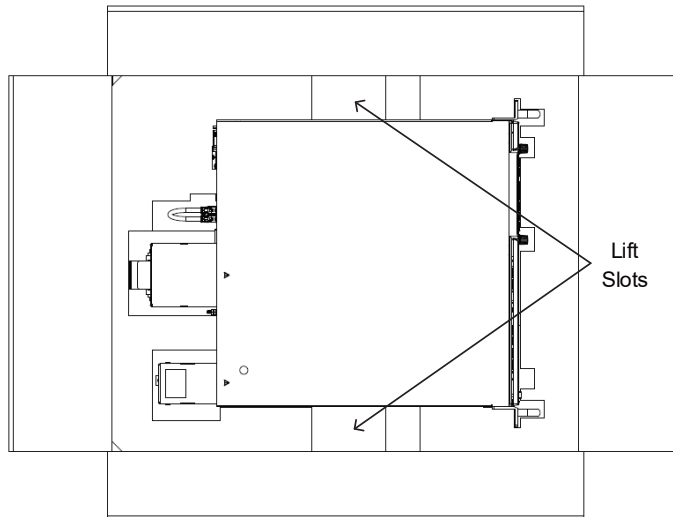

Figure 4-44: GSP Unpack – Power Supply Lift Out of the Box
3. Insert your hands into the side recesses (Lift Slots) and lift the power supply parallel to ground surface as shown in Figure 4-44. Do not tilt the power supply against foam panels to avoid damage. Keep it parallel to ground until it is totally free out of foam panels.